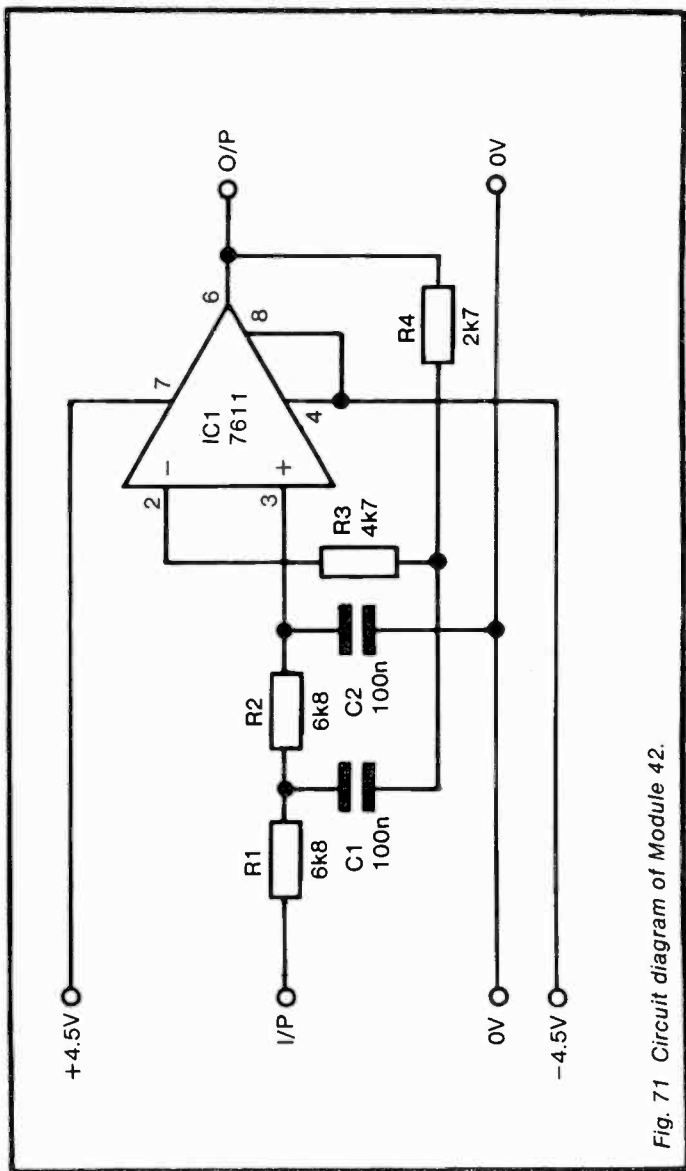

Fig. 71 Circuit diagram of Module 42.
*Circuit diagram:* see Figure 71.